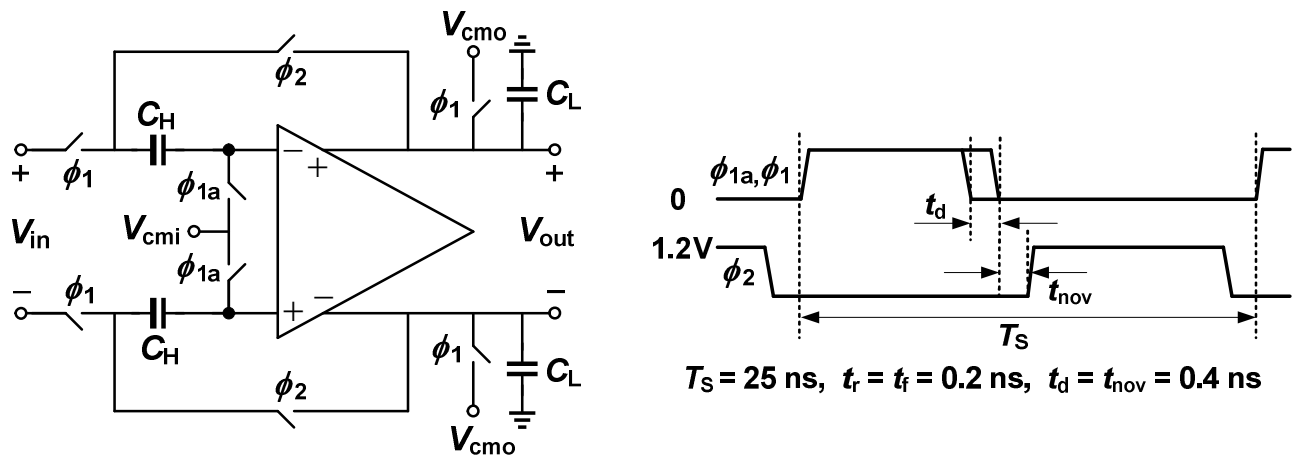
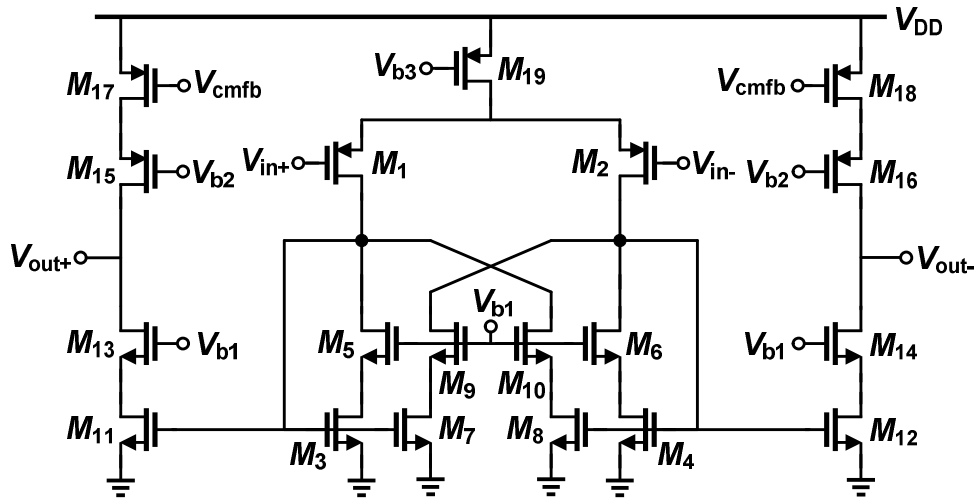
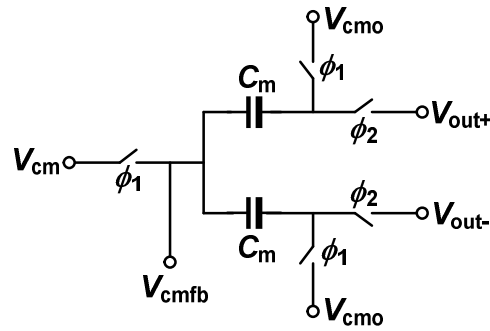

Fig. 1: A switched-capacitor sample and hold circuit.
Fig. 2: A fully-differential single-stage OTA.
Fig. 3: CMFB circuit.
In this project, you are to design a fully-differential single-stage operational transconductance amplifier (OTA) to be used in the front-end of an 8-bit pipelined A/D converter. The conceptual diagram of the amplifier and its utilization as a switched-capacitor (SC) sample and hold circuit is shown in Fig. 1 where  $\phi_1$  and  $\phi_2$  are two non-overlapping clock phases and  $\phi_{1a}$  is the advanced version of  $\phi_1$  only in its falling edge. The amplifier structure is shown in Fig. 2, and the common-mode feedback and bias circuits are illustrated in Figs. 3 and 4, respectively. The design specifications of the SC sample and hold amplifier are summarized as follows: